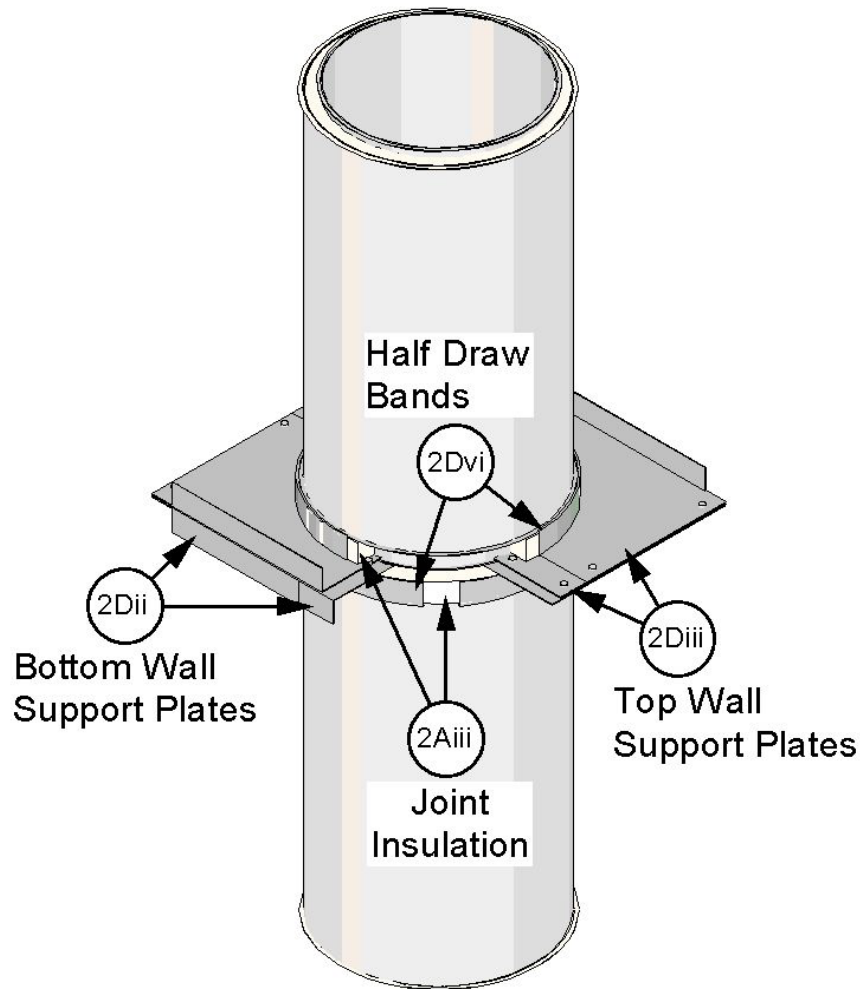
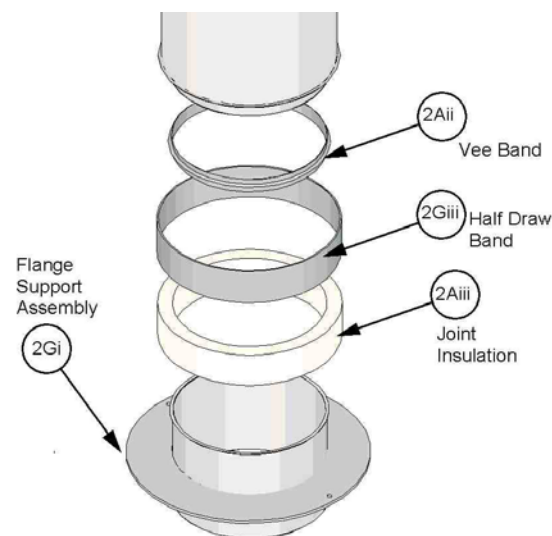

Figure 6. Wall Support Assembly (WSA) Joint
Figure 9. WFA Joint
Joint: Maintain min. code required clearance to combustibles or limited combustibles at WSA Joint locations. Reference Figure 6.
- ii. **Bottom Wall Support Plates:** Place the min. 8 GA steel bottom Wall Support Plates (two (2) half-plates required) around the inner liner of the lower Grease Duct (Item 1) section, with the bent flanges of the bottom Wall Support Plates facing down and as shown in Figure 6.
- iii. **Top Wall Support Plates:** Place the min. 8 GA steel top Wall Support Plates (two (2) half-plates required) around the inner liner of the upper Grease Duct (Item 1) section with the bent flanges of the top Wall Support Plates facing up and as shown in Figure 6.
- v. Use the supplied Joint Insulation (Item 2Aiii), and cut the width 1/4 in. greater than the width to be filled. Wrap the Joint Insulation around the upper and lower Grease Duct (Item 1) inner liner at the bottom and top Wall Support Plates (Items 2Dii and 2Diii). Wrap it three (3) times for nominal 1 in. thick Joint Insulation and two (2) times for nominal 1-1/2 in. thick Joint Insulation; add a min. 2 in. overlap on the final turn.
- vi. **Half Draw Bands:** Install two (2) Half Draw Bands to cover the insulated openings between the top and bottom Wall Support Plates (Items 2Dii and 2Diii) and the outer shells of the Grease Duct (Item 1) sections. Fasten the Half Draw Bands using the supplied 1/4-20 hardware in accordance with the manufacturer's installation instructions.
Joint: Maintain min. code required clearance to combustibles or limited combustibles at PLS Joint locations. Reference Figures 6 and 7. Follow same requirements as for the Wall Support Assembly (WSA) joint (Item 2D), except use the supplied min. 1/4 in. thick steel support plates (S/P) in lieu of the Bottom Wall Support Plates (Item 2Dii) and the min. 11 GA steel clamp flanges (C/F) in lieu of the Top Wall Support Plates (Item 2Diii).
Joint: Maintain min. code required clearance to combustibles or limited combustibles at GAR Joint locations. Reference Figures 6 and 8. Follow same requirements as for the Wall Support Assembly (WSA) joint (Item 2D), except use the supplied min. 11 GA steel guy attachment rings (GAR) in lieu of the Bottom Wall Support Plates (Item 2Dii) and the Top Wall Support Plates (Item 2Diii).
Joint: Maintain min. code required clearance to combustibles or limited combustibles at WFA Joint locations. Reference Figure 9.
B. Vertical Supports: Reference Figures 6, 7, 9, and 10. Where the Grease Duct (Item 1) is installed vertically, use the Wall Support Assembly (WSA), Plate Support Assembly (PLS), Wall Flange Assembly (WFA), or Ventilated Roof Support (VRS) depicted in Figure 9 with supplied components.
i. Supporting Construction: Use supporting construction determined by the responsible structural project engineer as appropriate to support four (4) times the load of the Grease Duct (Item 1) and meet the requirements of the NBCC or other applicable regulatory requirement.